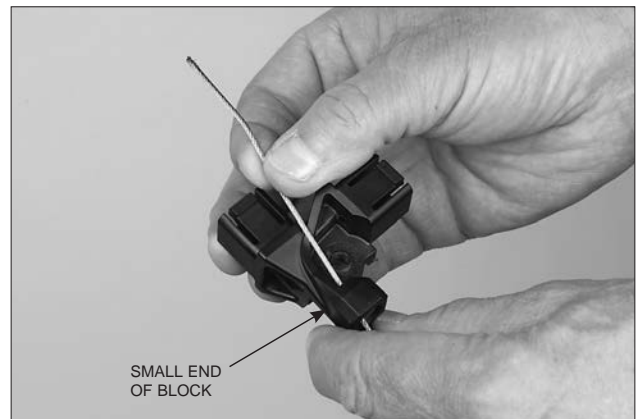

FIGURE 5-71
- Thread the wire rope through the small end of the block into the bearing area to be used. See Figure 5-71.